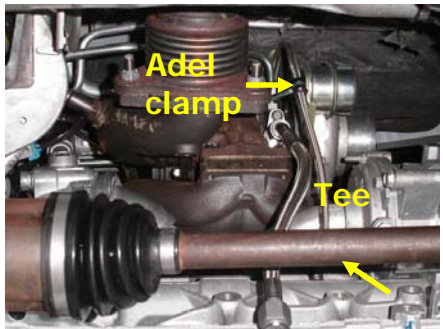

Fig. 19
20. Install the oil supply line – the 120° hose end connects to the engine block, the 90° hose end connects to the turbo. Use the supplied Adel clamp to secure the oil supply line to the actuator (Figure 19).
21. Install the oil drain line – the 45° hose end connects to the turbo, the straight hose end connects to the engine (Figure 19).